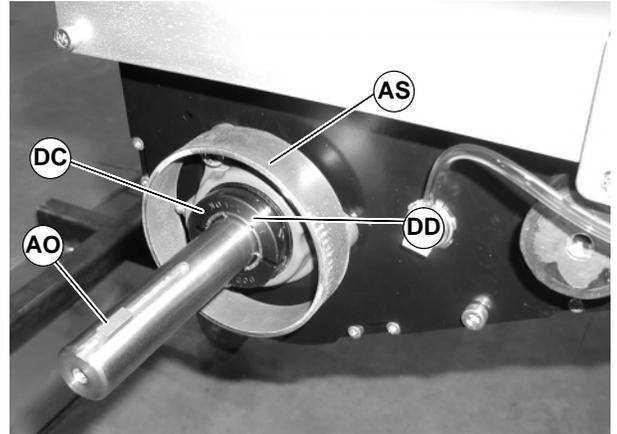

Figure 104
3. Remove spacer ring (AS of Figure 104) and key (AO). Loosen clamp screw (DC) and remove bearing collar (DD).
7. Reinstall bearing collar (DD of Figure 104). Tighten clamp screw (DC) to 95 in-lbs (11 N-m).
8. Reinstall key (AO of Figure 104).